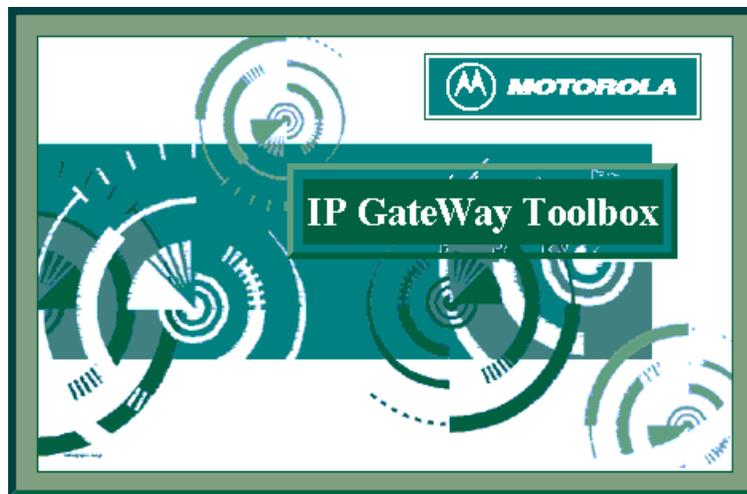

Figure 4-1: IP Gateway Toolbox Application Splash Logo
3. The Install Wizard displays the product's Splash Logo (see Figure 4-1) and the setup program prepares the InstallShield(r) for installation.